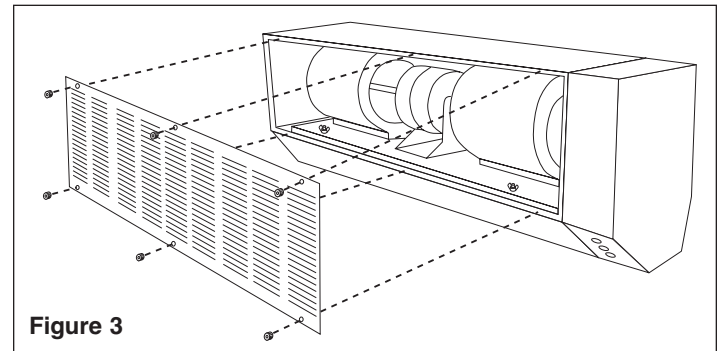

Figure 3
4. Unscrew six (6) knurled nuts and remove air intake grille. (See Figure 3)